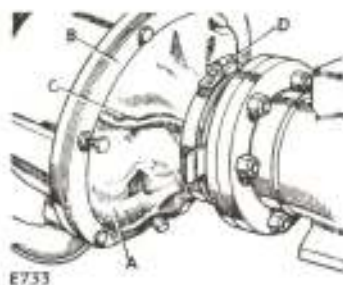

Fig. 64 Swivel pin housing gaiter
- (1) Jack up the front of the vehicle and remove the road wheel and brake drum.
- (2) Drain off the oil from the universal joint housing (remove both drain and filler plugs).
- (3) Remove hub cap (press fit on the driving member).
- (4) Place a drip tray below the hub and remove the driving member and joint washer from the stub shaft and the hub.
- (5) Mount a dial test indicator on one of the road wheel studs, using the bracket illustrated at Fig. 64. The total hub movement should be .002-.004 in. (0,05-0,10 mm).
- (6) Should the end-float prove to be correct, reassemble by reversing the stripping procedure. Replace the drain plug and refill the universal joint housing with oil.
- (7) If the end-float is not correct, prise up the locking tabs and unscrew the outer locknut.